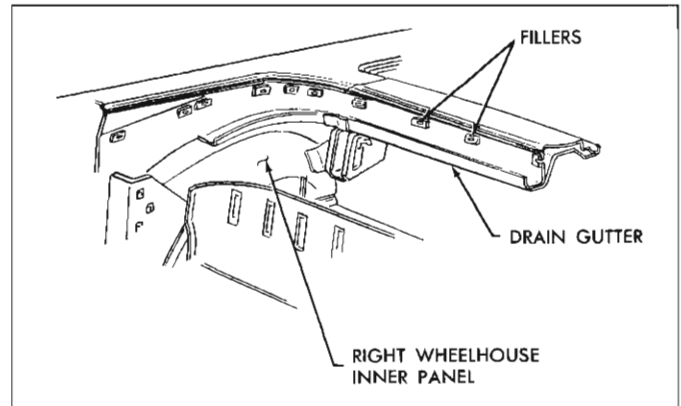

Fig. 64—Checking Trimstick Fillers
14. Inspect rubber trim stick fillers cemented to body below pinchweld. Re-cement if necessary (fig. 64).